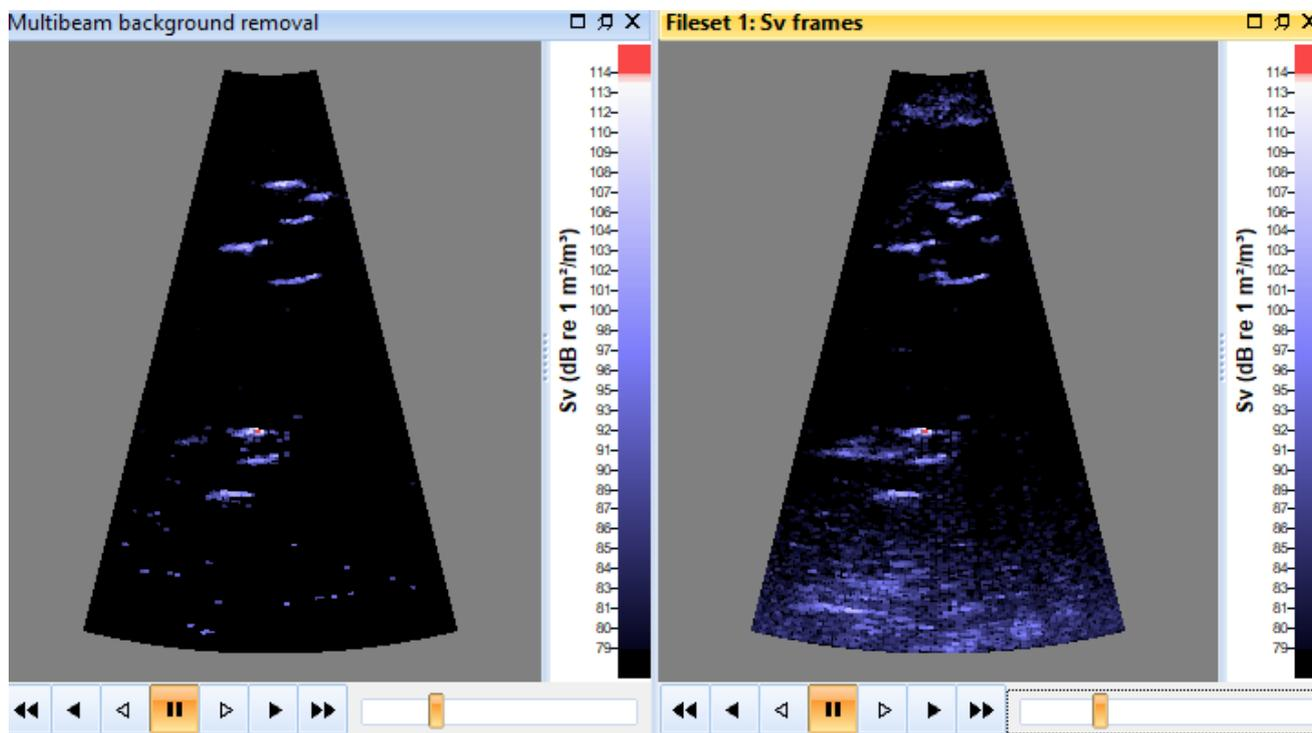

Figure 4. Sv frames and Multibeam Background Removal echograms (ping 34).
52. Use the DVD controls to view ping 34. Press A to synchronize the echograms. The Multibeam Background Removal operator has removed stationary objects, slowly moving objects and some noise, whilst leaving behind the fish moving through the beams, as shown in Figure 4 below.